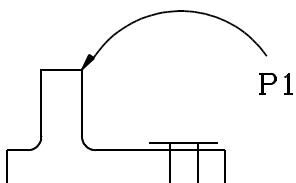

Figure 12
44. Click on point P1 in the front view. (See Figure 12.)